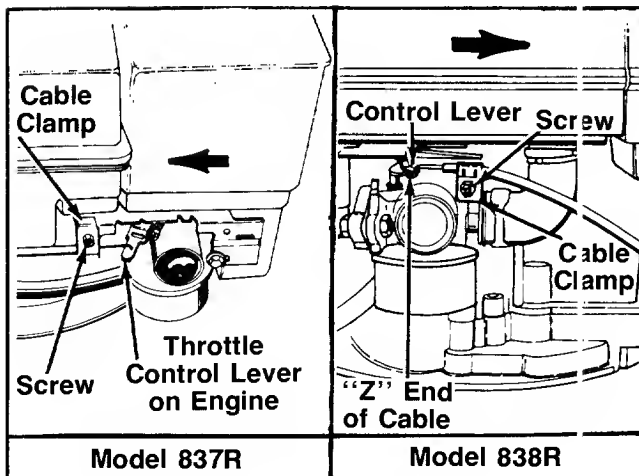

FIGURE 6B.—Models 837R and 838R
2. The throttle control cable is attached to the upper handle. Route the throttle control cable under the lower handle and to the outside of the handle wheel bracket assembly and height adjustment lever. Hook the "Z" end of the throttle control cable into the control lever on the engine as shown in figure 6B.
3. Loosen (do not remove) the screw on the cable clamp shown in figure 6B. Slip the control casing under the clamp (cable must move freely beneath the clamp).